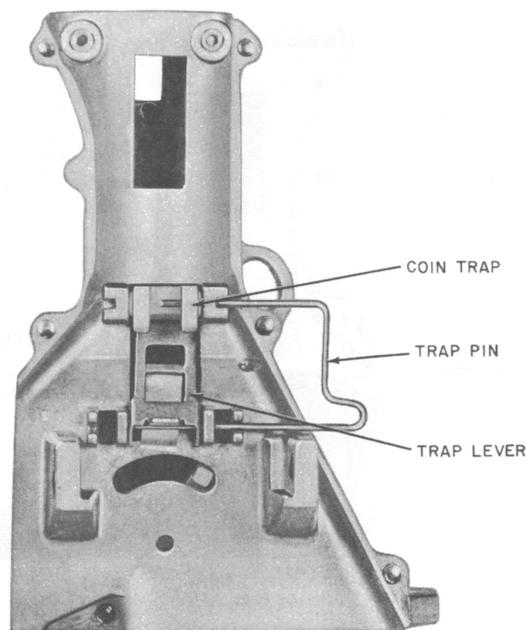

Fig. 19 — Placing Coin Trap on Hopper
- (1) Partially insert trap pin into hole in hopper.
- (2) Place trap-lever on trap pin
- (3) Insert coin trap in hopper and engage pin in trap (Fig. 19).
- (4) Push trap pin into position.
- (5) Check operation. See 5.13 (a).